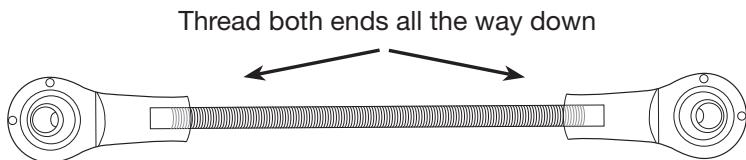

fig. 22
- Locate the linkage and ensure the rod is threaded all the way on (fig. 22).